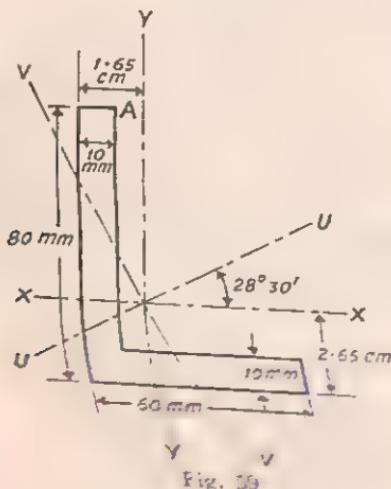

Fig. 59
7. Fig. 59 shows an unequal angle section, for which $I_x = 80.8 \text{ cm}^4$ and $I_y = 38.8 \text{ cm}^4$. Find the moments of inertia about the principal axes UU and VV , given that the angle between the axes UU and XX is $28^\circ 30'$.